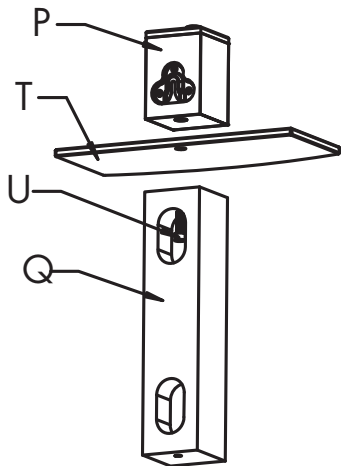

Figure 11
- Assemble **Side Unit Top Assembly (P)**, **Glass Shelf (T)** and **Side Unit Top Support (Q)** using **Socket Cap Screw (U)**. Refer to Figure 11.